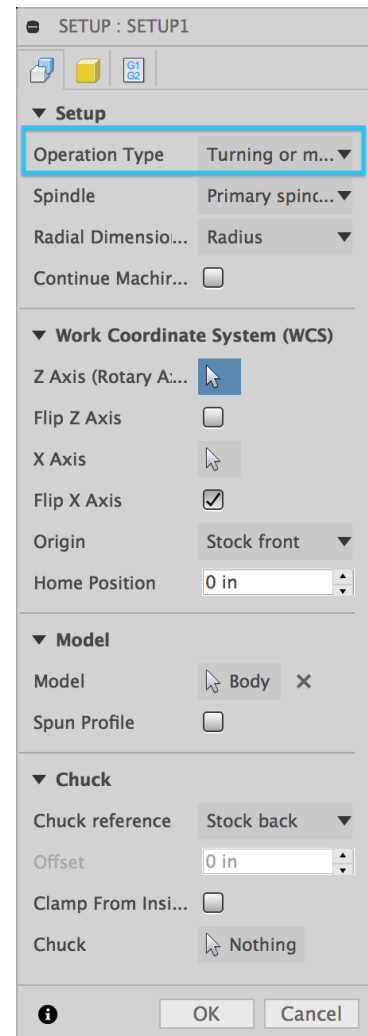

FIGURE 1.12: THE NEW SETUP'S SETTINGS DIALOG WINDOW.
- Under the **Setup** tab, change the operation type to **Turning or mill/turn**, shown in Figure 1.12.